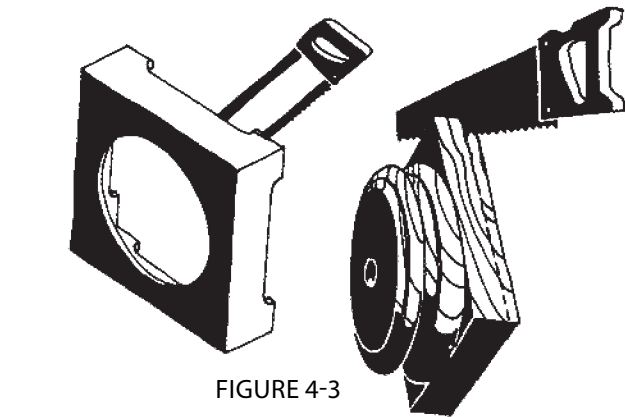

FIGURE 4-4
4. Pre-drill a minimum of four (4) holes in the plinth for attaching to the base. Then turn the base over and caulk the area where base and plinth meet. Attach plinth to base using 2-1/2" drywall screws (Fig. 4-4).